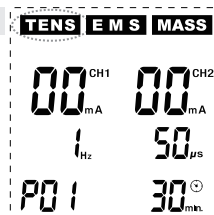

Fig. 5
In order to switch on the device, press the key (⏻). The blue display backlighting switches on and the device is now run in the basic mode. If you switch on the device for the first time, the display information corresponds to **Fig. 5**: The device is now run in the programme 1 (**P01**) of the **TENS** mode (**TENS** flashes). If you have already used the device, the programme used last before the device has been switched off is shown.
Press the key (T) in order to select the **TENS mode**. The **TENS mode** is activated and information, as shown in **Fig. 5**, appears on the display: The device is now run in programme 1 (**P01**) of the **TENS mode** (**TENS** flashes at the top on the left of the display). In the **TENS mode**, there are a total of 12 programmes (7 pre-programmed programmes **P01** - **P07** as well as 5 individual programmes **U1** - **U5** whose parameters can be set by the users themselves (see programme tables, page 22). In the **TENS mode**, press the key (P/II) repeatedly in order to first call the programmes **P01** - **P07** one after the other and then the programmes **U1** - **U5**. After programme **U5**, the programme order starts from the beginning with **P01**, **P02** etc.